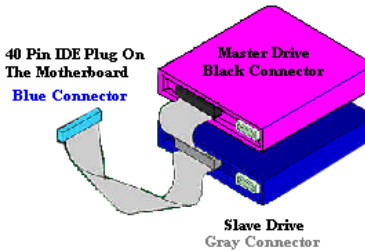

Figure 2-10. How to connect an ATA/66 Cable to the Motherboard
- Attach the **BLACK** connector to the mating plug on the master hard drive. Attach the **GREY** connector to the mating plug on the slave drive (secondary hard drive, CD ROM, or tape drive). Please refer figure 2-10.